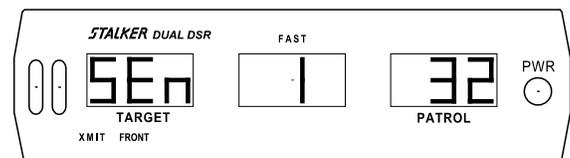
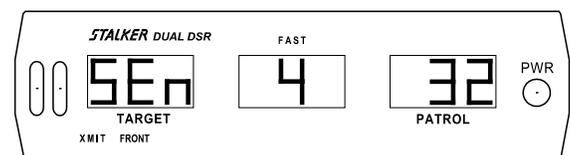

Fig 15
Fig 18
The range (or sensitivity) of **STALKER DUAL DSR** is adjusted by pressing the **SEn** key. This key cycles through the four (4) sensitivity levels; **SEn 1**, **SEn 2**, **SEn 3**, and **SEn 4** (Fig 15 - Fig 18, respectively). In each case, the center display refers to the current sensitivity setting. The shortest range is **SEn 1** (Fig 15), and the longest range is **SEn 4** (Fig 18). **The range (or sensitivity) must be set for same lane moving mode and opposite lane moving mode separately.** While in each mode, (same lane and opposite lane), indicated by the presence or absence of the **SAME** icon, set each sensitivity as described above.